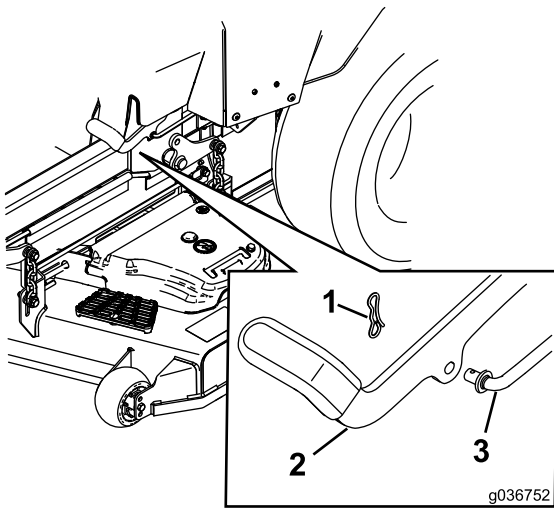

Figure 81
7. If an adjustment is necessary, disengage the parking brake. Remove the cotter pin from the brake linkage shaft (Figure 81).